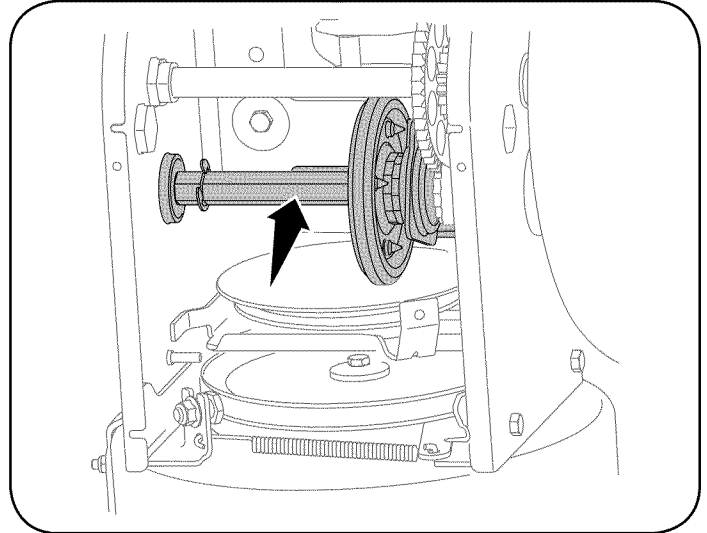

Figure 19
4. Apply a light coating of Bostik Regular grade Never-Seez® to the hex shaft. See Figure 19.